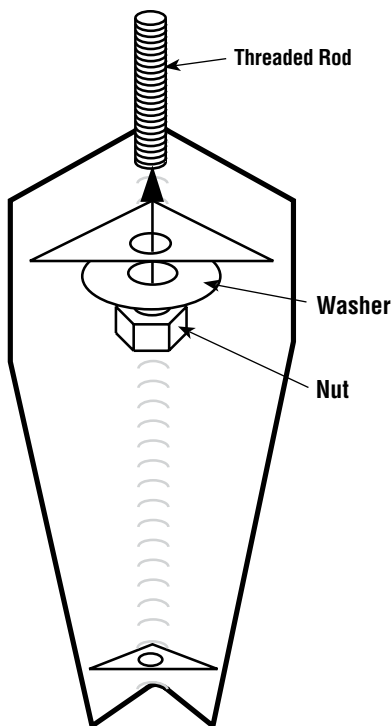

Figure 2
2. Mount all four legs as shown in *Figure 2*.